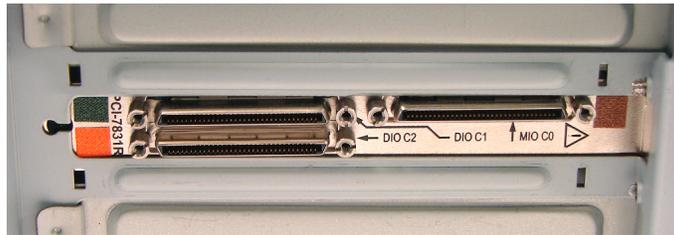
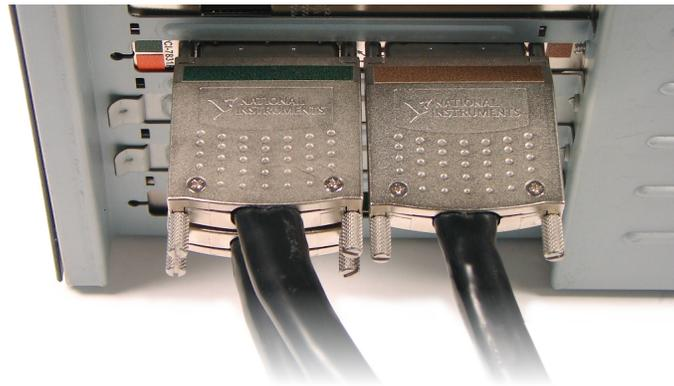
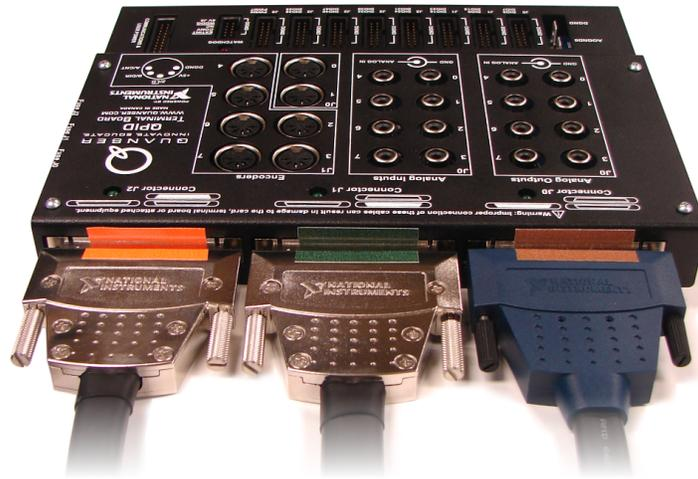

Figure 4.2: Connections on the installed QPID/QPIDE device with the color indications
Figure 4.3: Attaching the cables to the QPID/QPIDE device to match the corresponding colors
Figure 4.4: Attaching the cables to the terminal board to match the corresponding colors
The QPID/QPIDE cable connections are depicted in Figure 4.2, Figure 4.3, and Figure 4.4. The function of each cable is listed in Table 3.3.
2. The connectors on the QPID/QPIDE and terminal board are colour coded, as shown in Figure 4.2 and Figure 4.3. Align the sticker colors when connecting the cables.